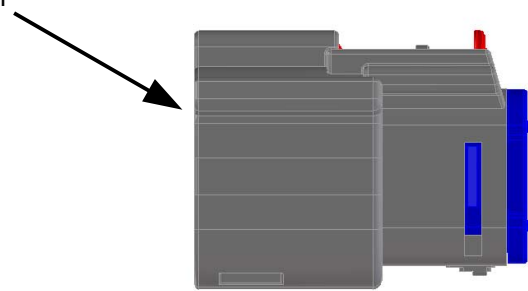

Figure 3: TPA in Locked Position
- When all terminals or circuit plugs are in their proper location, push down on TPA until it clicks into place and is roughly flush or on same level as edge of outer housing (See figure 3).